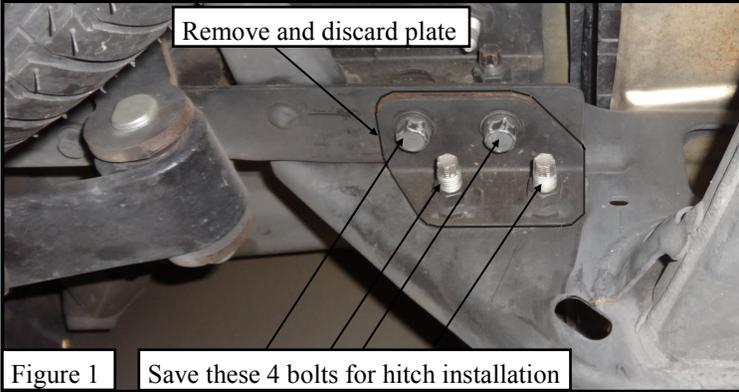

Figure 1 Save these 4 bolts for hitch installation
2. Locate mount hole locations (Figure 1)
3. Remove M14 and M12 bolts and save them for hitch installation. Discard plate. (Figure 1)
6. Use existing M12 bolts into the upper holes in the bottom of the frame (Figures 1 and 3). (Hole have nuts already assembled to the frame) (Figure 1).